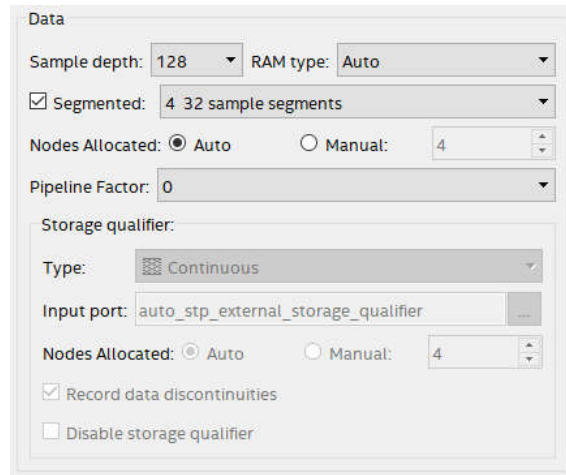

Figure 22. Select Segmented buffer acquisition mode with 4 32 sample segments.
3. In the Signal Configuration pane of the SignalTap window, in the Data section of the pane check **Segmented**. In the dropdown menu beside Segmented, select **4 32 sample segments**. This will result in a pane that looks like Figure 22.